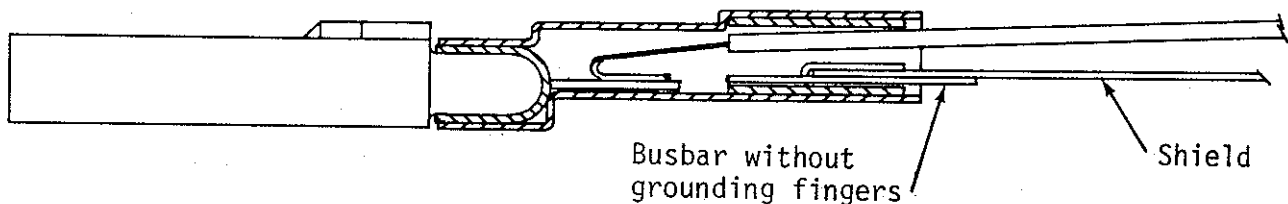
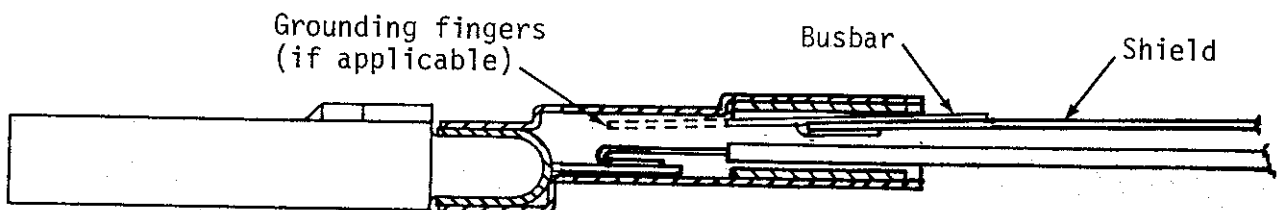

Figure 12. Busbar Position if Underneath FCC (Without Grounding Fingers)
Figure 13. Busbar Position if On Top of FCC (With or Without Grounding Fingers)
2. If a shield/busbar assembly is being terminated in this insert, position the busbar as shown in Figure 12 or Figure 13.